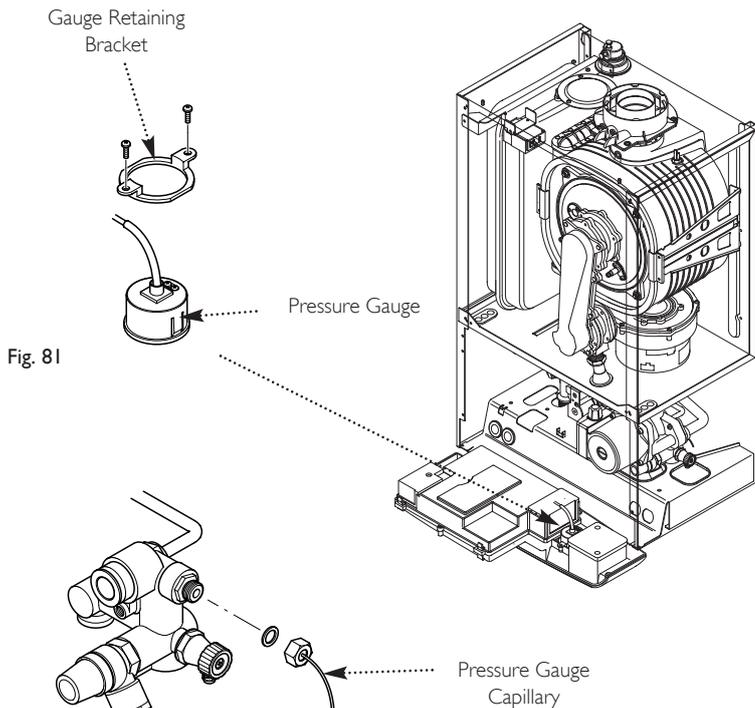

Fig. 81
14.16 Pressure Gauge (Figs. 81 & 82)